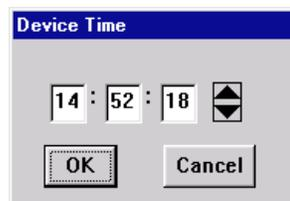

Figure 2-12. Device Time Change Window
2. The Device Time change window, Figure 2-12, will appear.